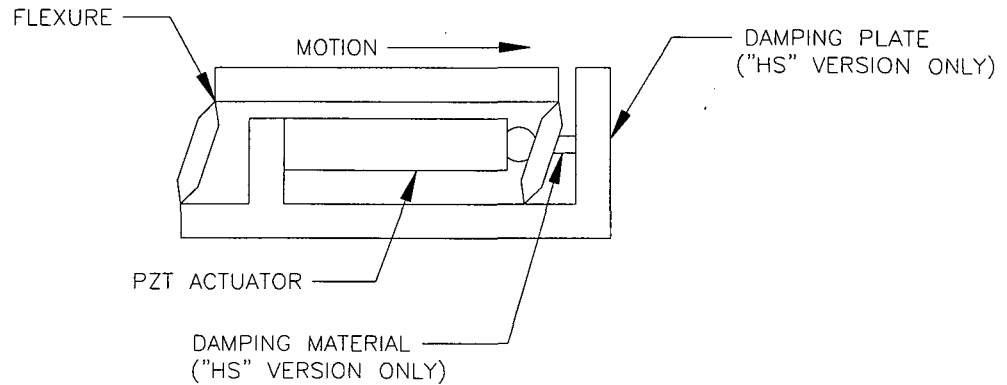

Figure 4.3. Schematic Drawing Of The PZS Microstage Design
**PZS: (Figures 4.3 through 4.6)**